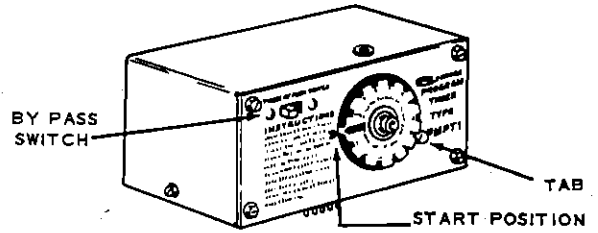

Figure 1. Program Timer.
2. Set Tab, Figure 1, by depressing to clear slots, and rotate to position indicating selections desired per 1/2 hour period (cycle). Release Tab to latch in place.